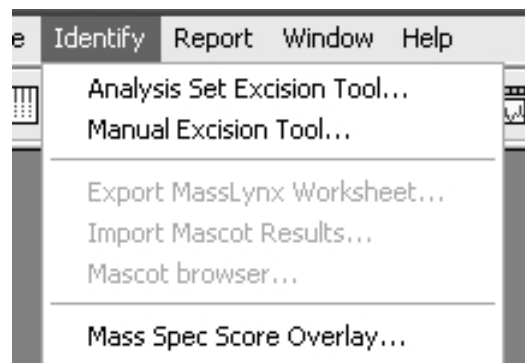

Figure 5-1. "Opening the Manual Excision Tool in PDQuest and Quantity One".
3. Open the PDQuest software and click **Identify/Manual Excision Tool** or open the Quantity One software and click **Excision/Manual Excision Tool** (see Figure 5-1).